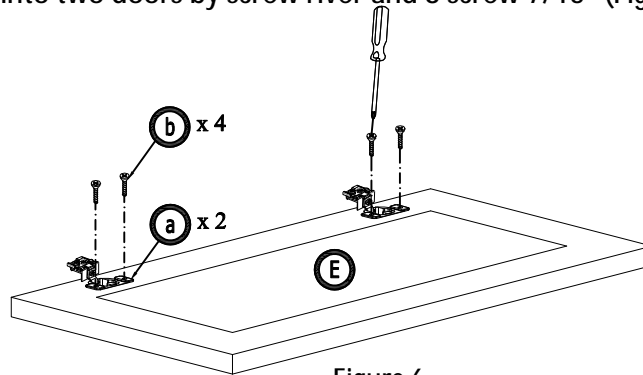

Figure 6
6. Assemble 4 hinges into two doors by screw river and 8 screw 7/15" (Figure 6)